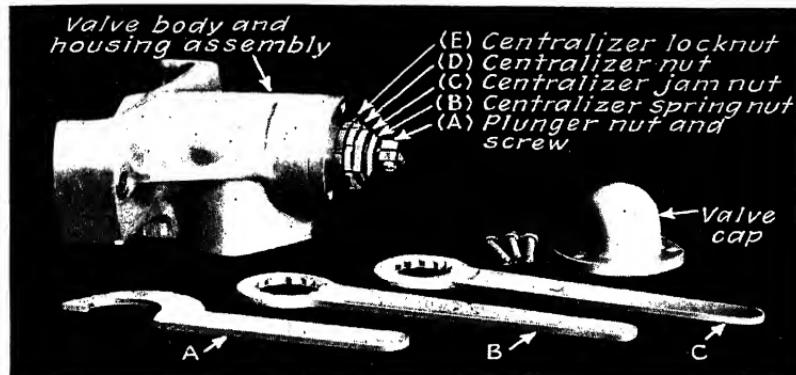
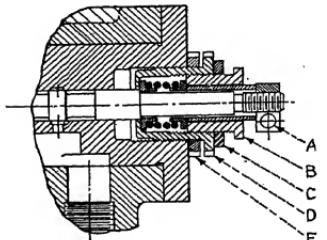

FIG. 88.—Balanced oil valve with cap removed and tools to be used.
Fig. 89.—Cross section of balanced oil valve.
*To centralize:* With wrench, *A*, Fig. 88, loosen the centralizer lock nut *E*, Fig. 89, and adjust the centralizer nut *D* until corresponding control just starts to move in one direction. Mark the position of the centralizer nut with respect to the valve body; then turn in the opposite direction until the control starts to move in the opposite direction. Mark. Now turn the centralizer nut midway between the two markings, and tighten the centralizer lock nut. *Care must be taken not to disturb the plunger nut, spring nut, and jam nut, *A*, *B* and *C*.*
Loosen the plunger nut lock screw *A* (Fig. 89) and turn the plunger nut counterclockwise until there is noticeable play between the plunger and the centralizing assembly; then screw the plunger nut *in* until end play just disappears. When these adjustments are completed, there must be *no play*; at the same time, the spring must be *under no initial compression*.